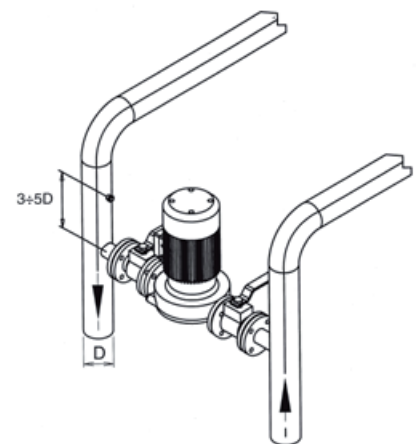

fig. 7
5.5.5 Recirculating pump (Fig. 7)